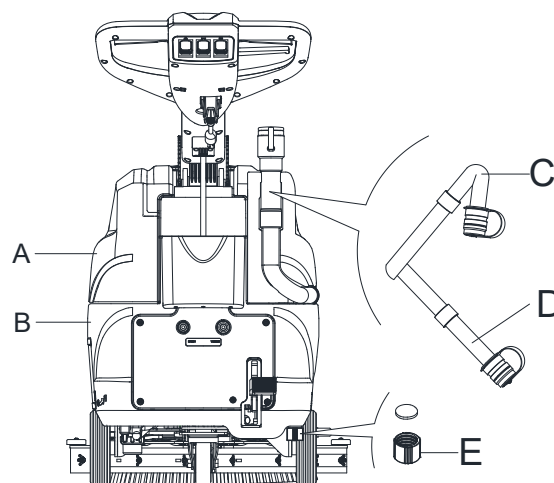

Figure 10
When draining the wastewater, the vacuum tube for waste must be folded (C, Figure 10) and lowered to a lower position (D, Figure 10), and then open the lid of the vacuum tube for waste to drain the water. Do not make the outlet of the vacuum tube for waste face upward to drain the water vertically. This is to avoid wastewater spilling onto the operator.
8. Empty the solution tank with the outlet cover (E, Figure 10). After working, rinse the tank with clean water.
2. Empty the tanks (A and B, Figure 10) as shown in the previous paragraph.
4. Clean the recovery tank lid (A), recovery tank (C), clean solution tank(D) and the float ball filter(B). Empty the recovery tank with the drain hose (D, Figure 10).